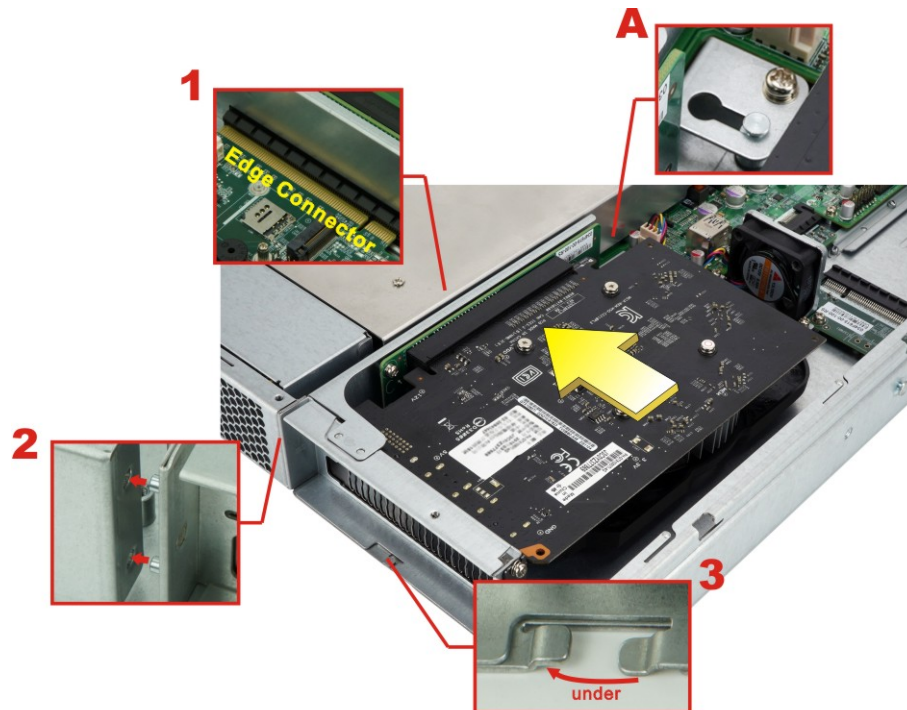

Figure 3-7: Expansion Slot Module Installation
Step 6: Place the expansion slot module back to the original position by hooking the slotted hole into the positioning stud in the chassis (**Figure 3-7 A**). Push the connector of the expansion slot module into the edge connector to install it.